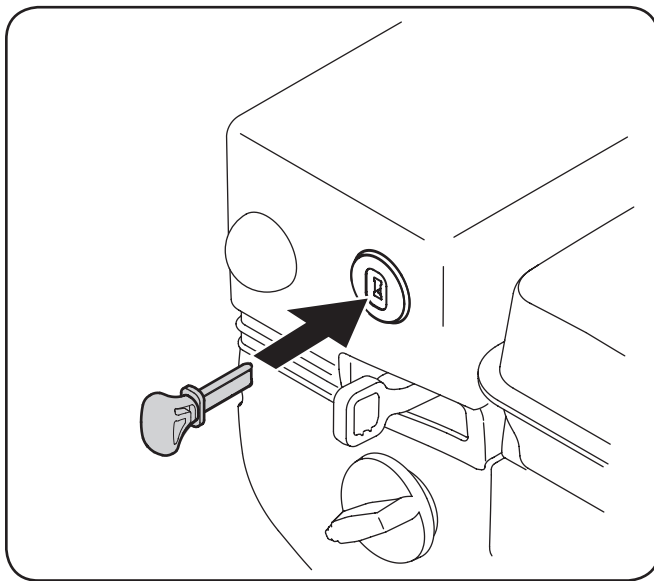

Figure 5-1
1. Insert ignition key fully into slot, Figure 5-1. Make sure it snaps into place. **DO NOT** turn ignition key. The engine cannot start unless the key is inserted into ignition switch.